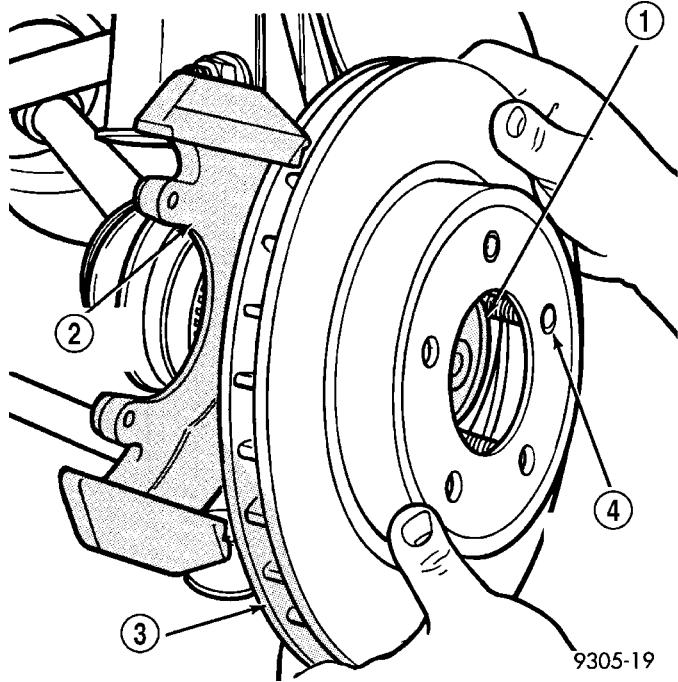

Fig. 93 Front Rotor Removal/Installation
(1) Remove disc brake caliper and store (hang) it out of the way following the procedure found in Brake Pads/Shoes. (Refer to 5 - BRAKES - BASE/HYDRAULIC/MECHANICAL/BRAKE PADS/SHOES - REMOVAL)
(2) Remove any clips retaining the brake rotor to the wheel mounting studs.
(3) Remove brake rotor from hub by pulling it straight off wheel mounting studs (Fig. 93).
(1) Install brake rotor over the wheel mounting studs onto hub (Fig. 93).
(2) Install disc brake caliper and shoes following the procedure found in Brake Pads/Shoes. (Refer to 5 - BRAKES - BASE/HYDRAULIC/MECHANICAL/BRAKE PADS/SHOES - INSTALLATION)
(3) Pump the brake pedal several times to ensure the vehicle has a firm brake pedal to adequately stop vehicle.
(4) Check and adjust brake fluid level as necessary.